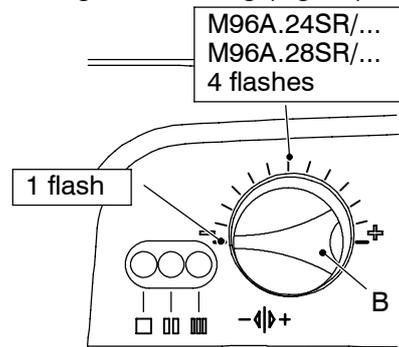

Fig. 14
At this step it is possible to visualize the current setting by keeping the reset button D pressed for more than 5 seconds. The lamps F will flash a number of times corresponding to the setting (Fig. 14).
- 7 To change the setting turn the knob B on a position corresponding to the boiler models (Fig. 14). By turning the knob B, the lock-out signal lamp E blinks quickly (2 per seconds) indicating that the setting has changed and must be memorised.